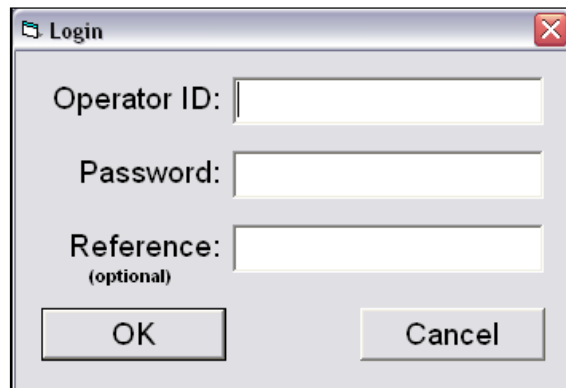

Figure 33: Login box
2. Click on any tab at the top of the screen. The Login box appears (Figure 33).